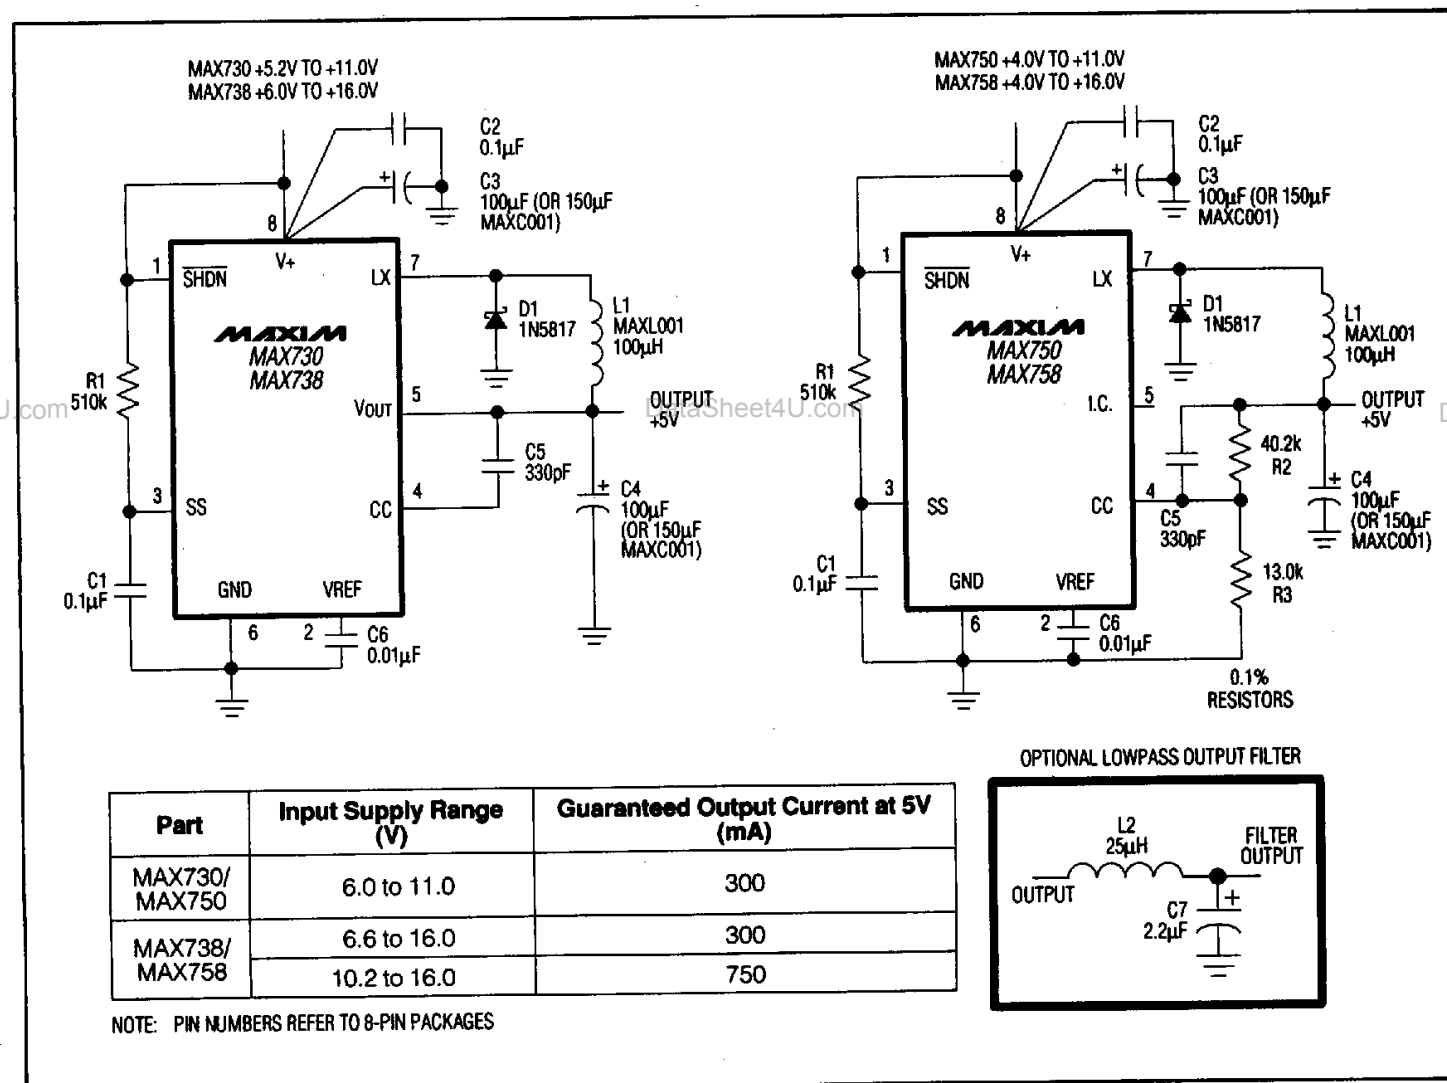

Figure 3. Standard +5V Step-Down Application Circuit
CIRCUIT OF FIG. 3, $V_+ = 12V$, $T_A = +25^\circ C$
Figure 3 shows both the standard 5V and the adjustable step-down application circuits. These circuits are useful in systems that require high current and high efficiency and are powered by an unregulated supply, such as a battery or wall-plug AC-DC transformer. These circuits will operate over the entire line, load, and temperature ranges using the single set of component values shown. All components shown are suitable for the MAX730/738/750/758. The actual value of the input and output capacitors is not critical as long as it is greater than 100 μ F, has low ESR, and has sufficient voltage rating.
For other output voltages, the MAX750/MAX758 have adjustable outputs from 1.25V to the input voltage. To adjust for other output voltages, connect a voltage divider to the compensation capacitor input (CC) pin as shown in Figure 3.
A simple lowpass pi-filter (Figure 3) can be added to the output to reduce output ripple to about 5mVp-p. The cutoff frequency shown is 21kHz. Since the filter inductor is in series with the circuit output, its resistance should be kept to a minimum so the voltage drop across it is not excessive.